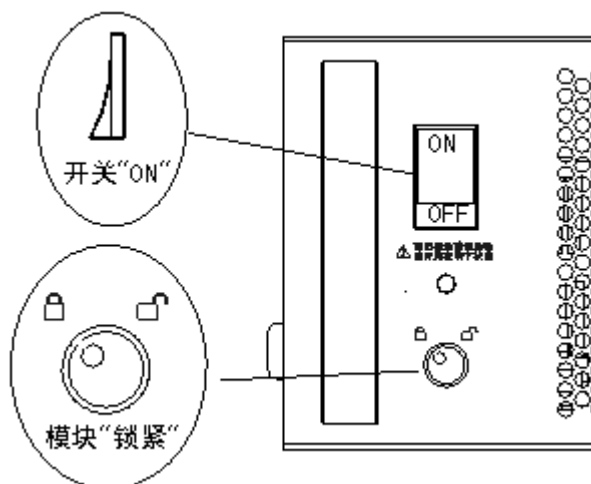

Fig. 9.1
1. Check the position lock located on the front panel of the installed UPS module. Make sure that the position locks of all of the modules are in the “” position and set the input breakers of all of the installed UPS modules to the ON position (Fig. 9.1) .